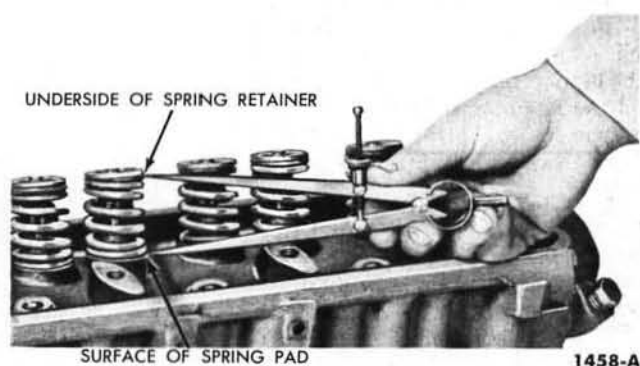

FIG. 19—Valve Spring Assembled Height
3. Measure the assembled height of the valve springs from the surface of the cylinder head spring pad to the underside of the spring retainer with dividers (Fig. 19). Check the dividers against a scale. If the assembled height is greater than $1\frac{13}{16}$ inches, install the necessary 0.030-inch thick spacer(s) between the cylinder head spring pad and the valve spring to bring the assembled height to the recommended dimension of $1\frac{29}{32}$ – $1\frac{13}{16}$ inches. **Do not install spacers unless necessary. Use of spacers in excess of recommendations will result in overstressing the valve springs which will lead to excessive load loss and spring breakage.**